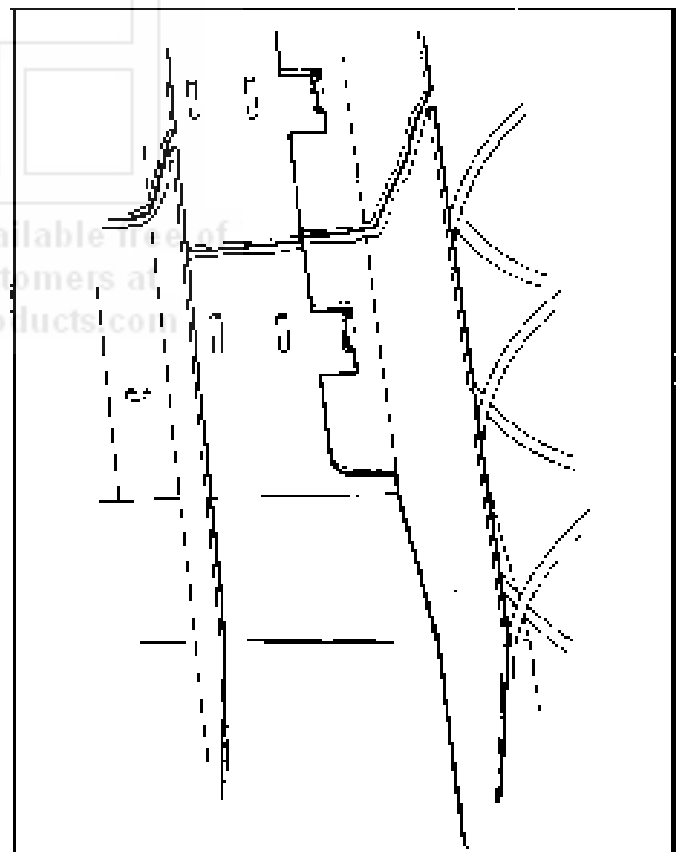

Figure 4. ALIGNMENT OF MOVABLE PRODUCT SPACERS.
6. **PRODUCT SPACERS- 5 SELECTION SHELF:** A product spacer is used to reduce the width of the product area and should be used on any 5-selection snack shelf where the product width is 4 3/4" or less. Spacers should fit within 1/8" of the product, but should not fit tight against the product. There are three positions in each snack space where these spacers can be placed. To install the spacer, align the lock ears (on the lower edge of the spacer) with one of the three sets of slots (one front and one rear). (See Figure 4). Push the spacer to the rear to allow the ears to enter the slots, then allow the spacer to move forward. Be sure the ears are in the same set of slots, front and rear. (See Figure 4). Continue loading all spacers adjust with spacers where needed in the top shelf. Return the top shelf to the vend position and following this procedure load the remainder of the large spiral shelves. The shelf divider securing the right (lock side) column from the next column is movable to allow vending of products wider than 3 3/4" in the second column. If this is used the right column must be used to vend a narrower product.